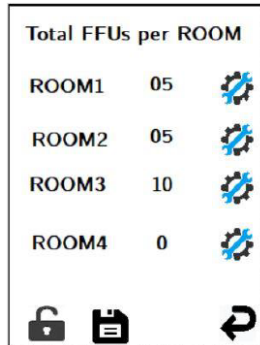

Figure 4: FFUs per Room Screen
- From Settings page 1, select Assign FFU to Rooms, to configure room groups. See Figure 4. select the Wrench icon  beside the room number you want to configure.